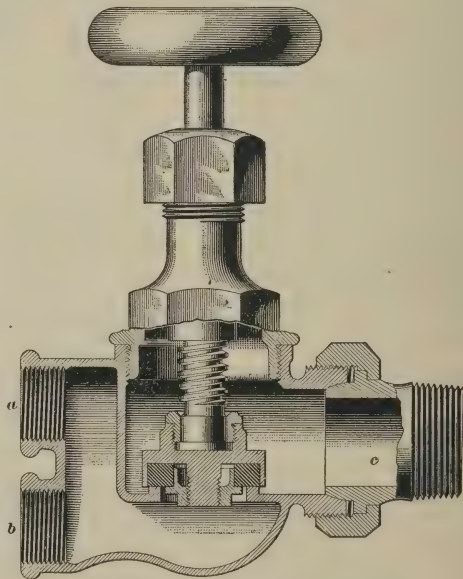

FIG. 79
**126.** The **Collis circulating valve** is a valve by means of which a very neat and sightly job can be made of the radiator connections in a two-pipe system, as the steam and return pipes will be close together. The general construction is similar to that of the offset globe valve; the valve, as shown in Fig. 79, has an inlet *a* for the steam and an outlet *b* for the water of con-
(3) Which class of boiler tubes do you consider best for use in stationary boilers ? Give reason.
(4) At what pressure is spiral riveted pipe tested ?
(6) Briefly describe the use of brass pipe in steam work.
(7) Describe the distinguishing characteristic of a right-and-left elbow.
(8) Describe the purpose of a division tee.
(9) Describe the purpose of a manifold tee.
(10) For what is an eccentric cross used ?
(11) Explain the use of a floor and ceiling sleeve.
(12) Describe the distinguishing features of a gate valve.
(13) State some of the advantages of the radiator valve shown in Fig. 79.
(14) What class of check-valves is best adapted for use on return pipes ? Give reasons.